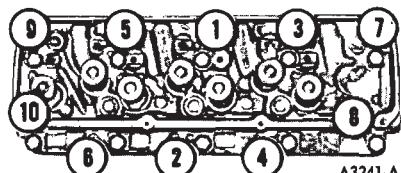

FIG. 13—Cylinder Head Bolt Torque Sequence
3. The cylinder head bolts are tightened in three progressive steps. Tighten all the bolts in sequence (Fig. 13) to 50 ft-lbs., then to 60 ft-lbs. and finally to specifications. When cylinder head bolts have been tightened following this procedure, it is not necessary to retorque the bolts after extended operation. However, the bolts may be checked and retorqued if desired.